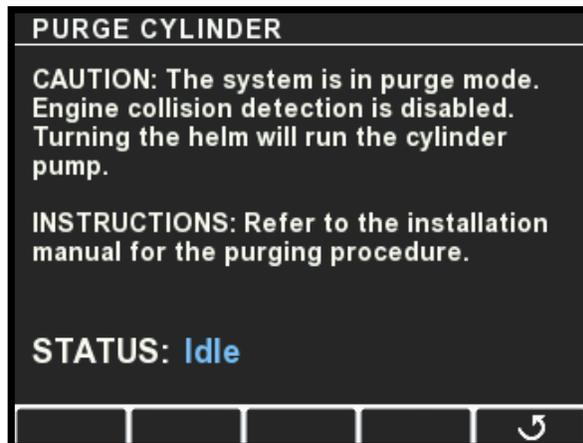

Figure 7-8.
8. Select the cylinder to purge and press **>** to enter Purge Mode. If you don't see the Purge Cylinder screen as shown in figure 7-8, cycle the system power and try again. The system will not enter Purge Mode if the helm has been turned since the ignition was turned on.